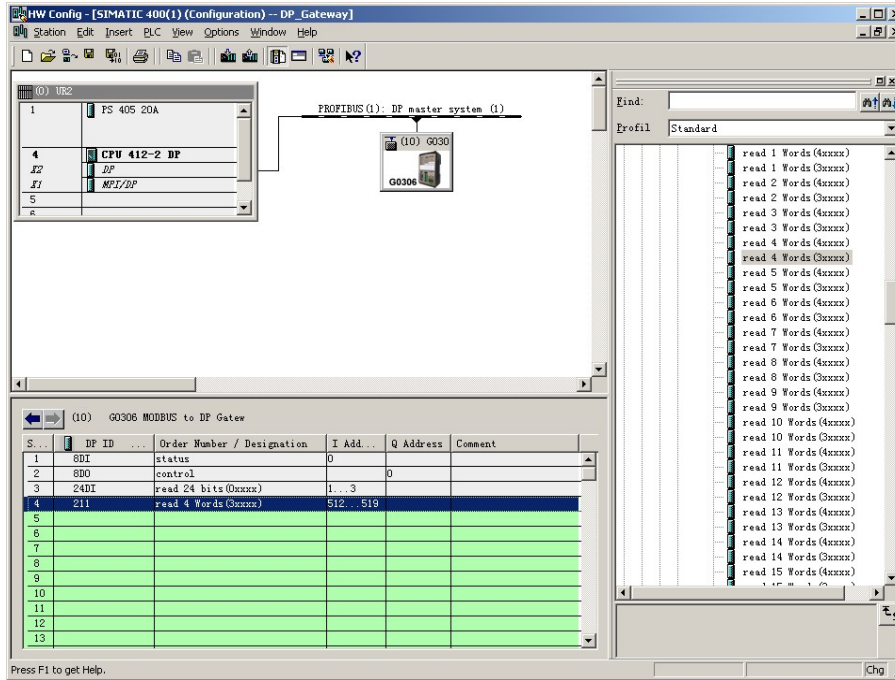

Figure 19 Add "read 4 Words(3xxxx)" module
**a) Add the "read 4 Words(3xxxx)" module, as shown in Figure 19:**